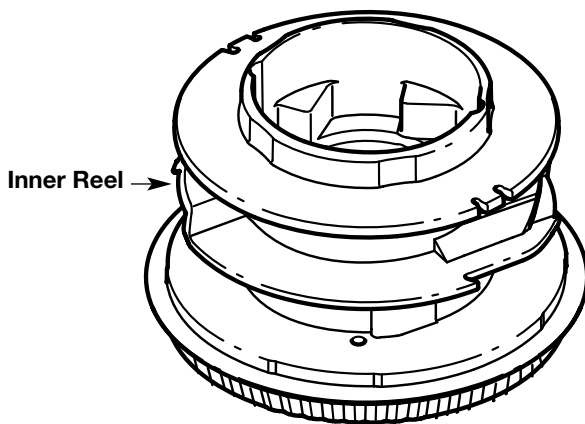

Fig. 26
4. Remove any existing line from the inner reel before cleaning. Remove any debris or grass from the knob, spring, inner reel, and foam seal. Wash the inner reel with warm soapy water (Fig. 26).